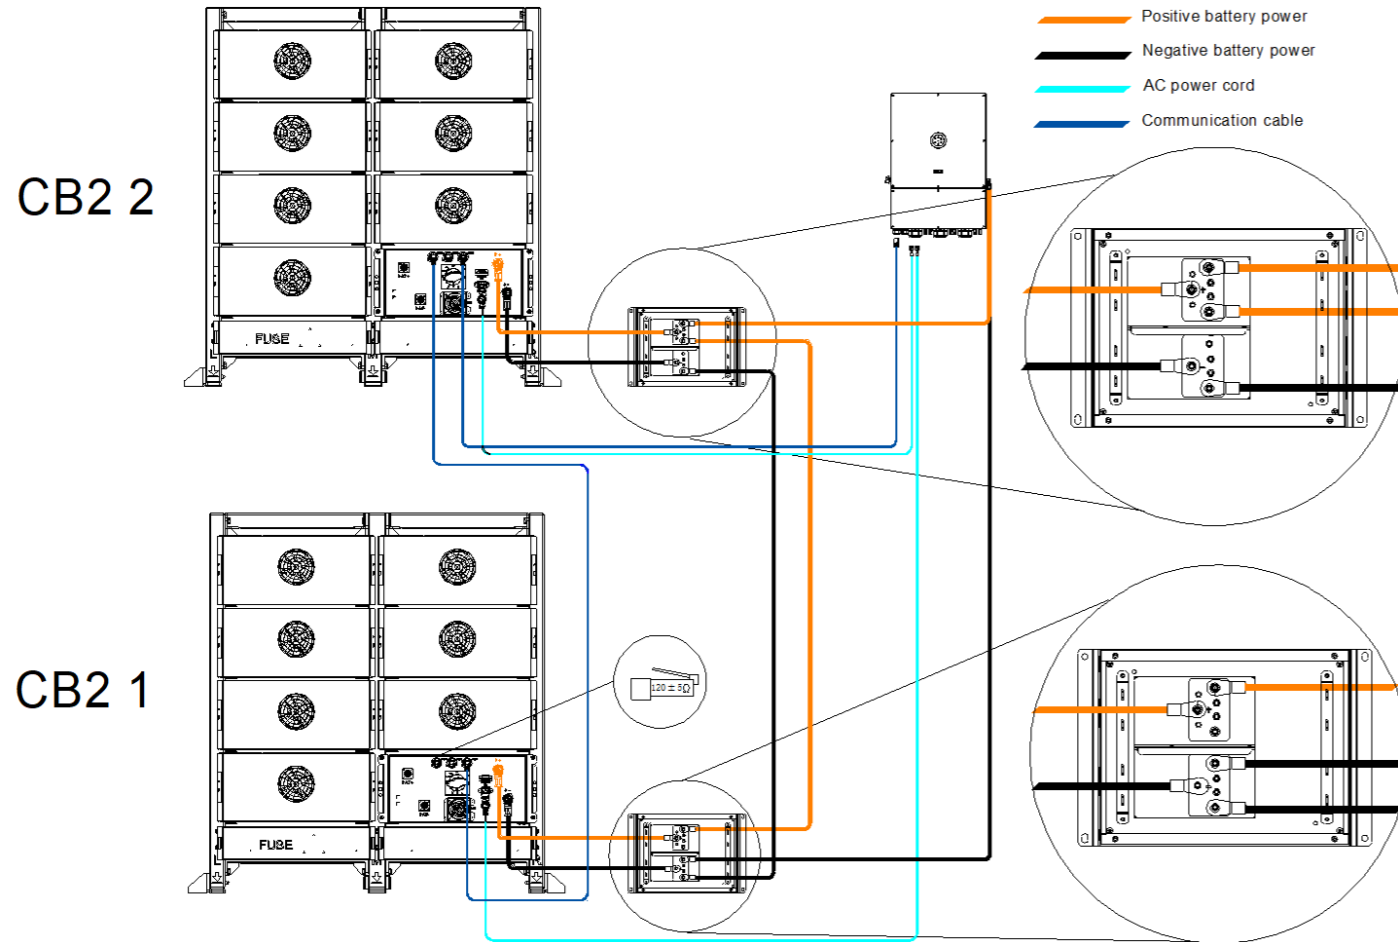

Figure 7.1. One-rack to two-rack expansion
- Prepare the cable connections between each CB2 battery system, distribution box, and CH2 inverter. See Figure 7.1 One-rack to two-rack expansion for reference.